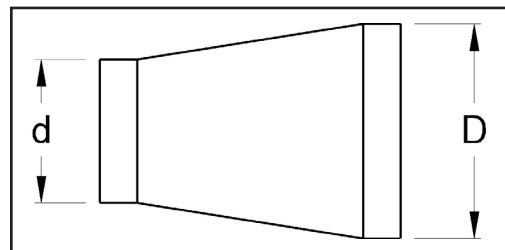

Figure 1
*Reducer or increaser ratio (d/D) small diameter divided reducer ratio is $d/D = 4/8 = 1/2$. To estimate the equivalent foot length for the fitting, use the smaller pipe diameter for the equivalent length figure. Example 4" to 8" reducer; the reducer ratio is 1/2 and the smaller pipe diameter is 4". So, from the chart, the equivalent length would be 7 feet (see Figure 1).